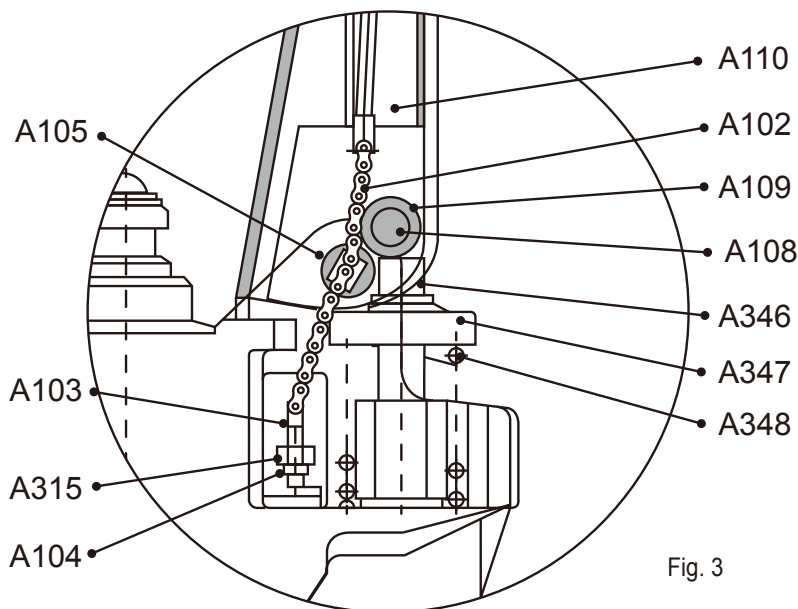

Fig. 3
2.2 Let control handle A117 to the 'LOWER' position, then pass the adjusting nut A104, adjusting bolt A103 and chain A102 through the hole of axle A105 with your hand (See fig. 3).